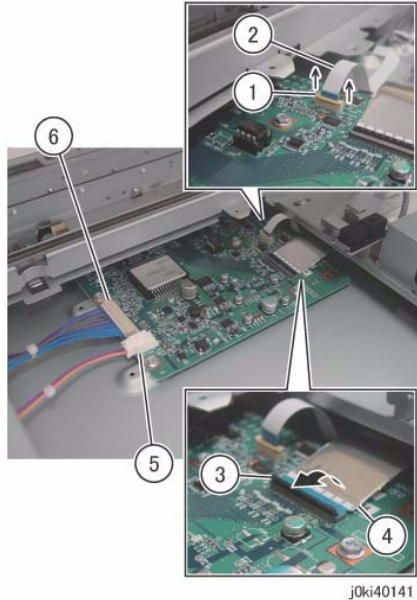

Figure 3 Disconnect the connectors
10. Disconnect the connectors that are connected to the IIT PWB. (Figure 3)